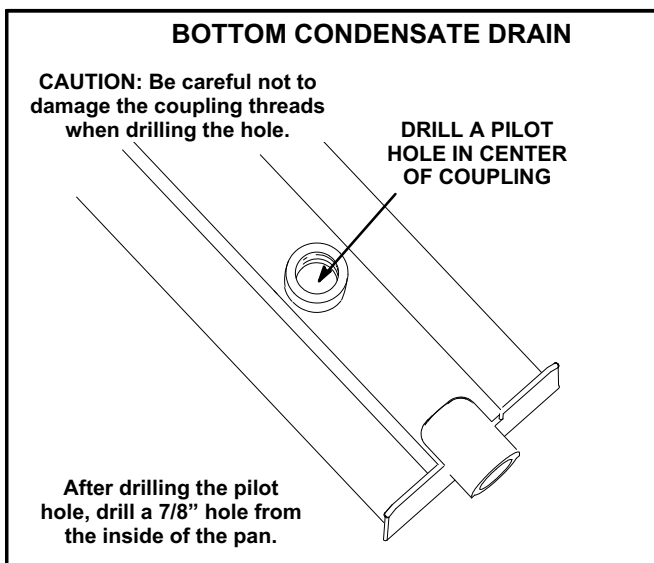

FIGURE 8
- 6- Turn the drain pan upside down and drill a pilot hole through the bottom of the drain pan in the center of the coupling. See figure 8.